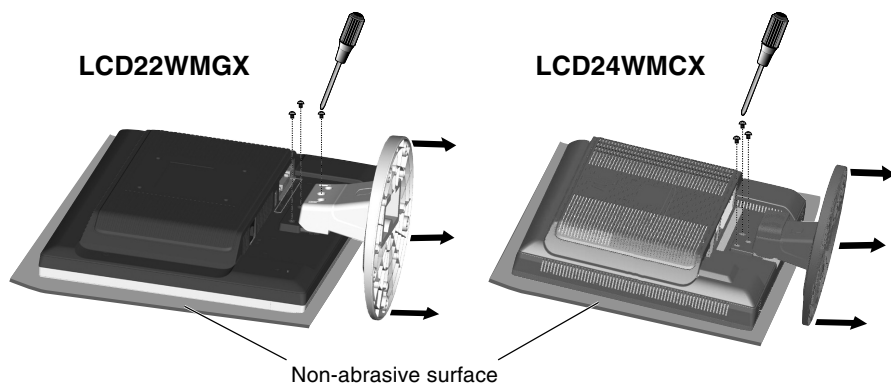

Figure R.1
2. Place monitor face down on a non-abrasive surface (**Figure R.1**).
3. Remove the 3 screws connecting the monitor to the stand and remove the stand as indicated (**Figure R.1**). The monitor is now ready for mounting in an alternative manner.
1. Place monitor face down on a non-abrasive surface (**Figure R.1**).